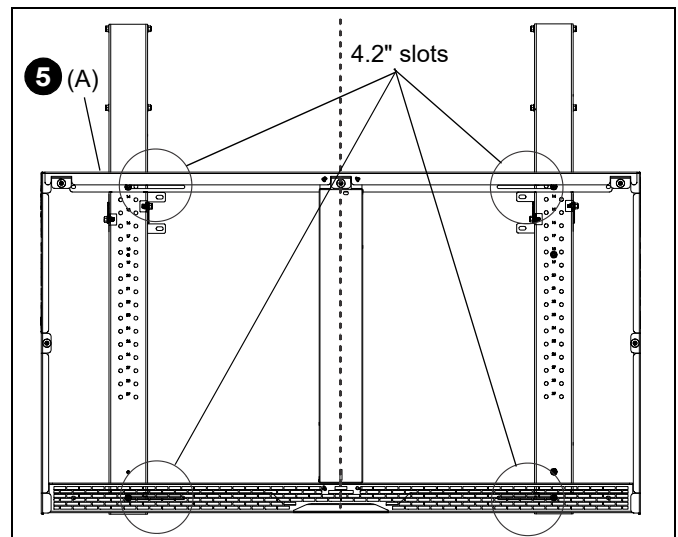

Figure 2
5. Position the assembled floor cabinet (A) and bottom uprights (F/G) in the desired position flush against the installation wall using the 4.2" slots. (See Figure 2)